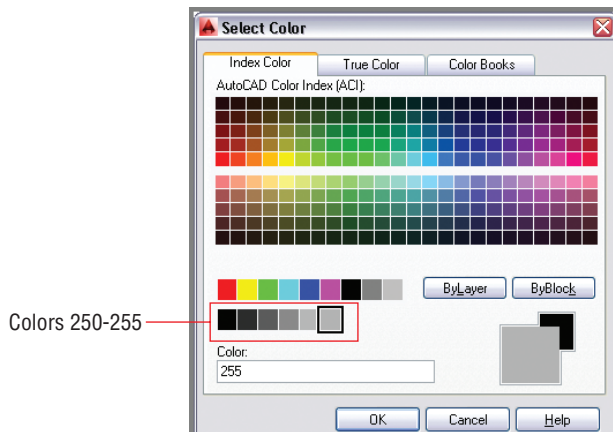

FIGURE 8.4 Selecting a color override for the hatch object
6. Open the Hatch Color drop-down in the Properties panel, and choose Select Colors at the bottom of the list of standard colors. Choose color 255 from the Select Color dialog box and click OK (see Figure 8.4).